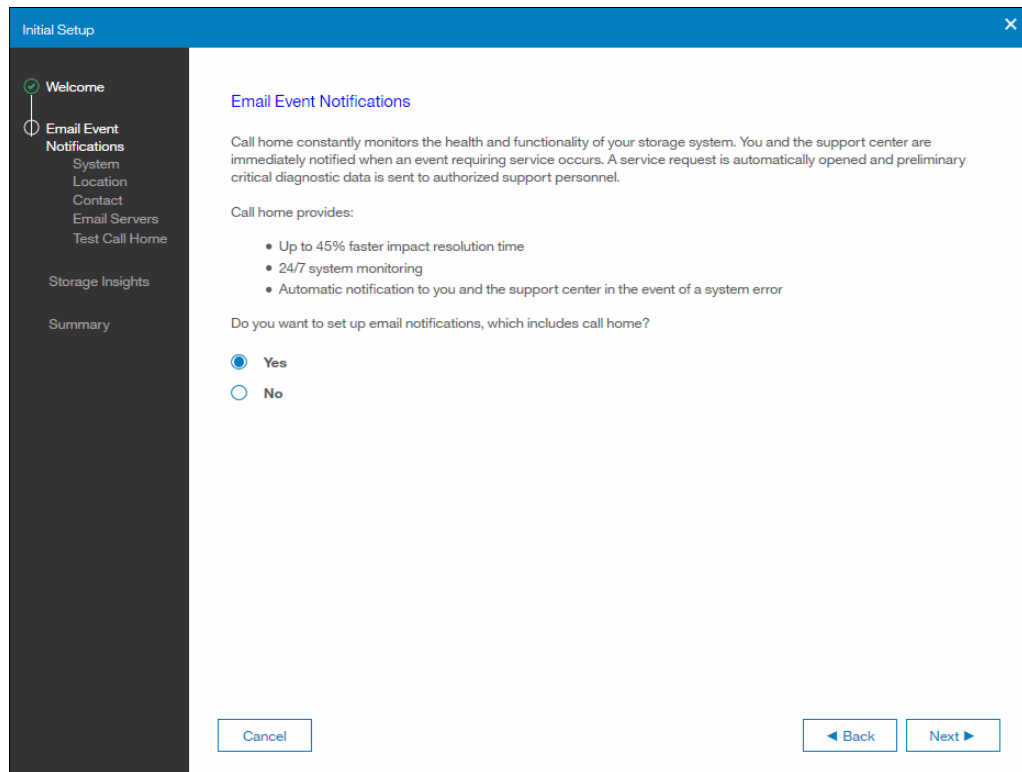

Figure 6-62 Email events notifications screen
6. The Email Event Notifications screen is displayed (Figure 6-62).